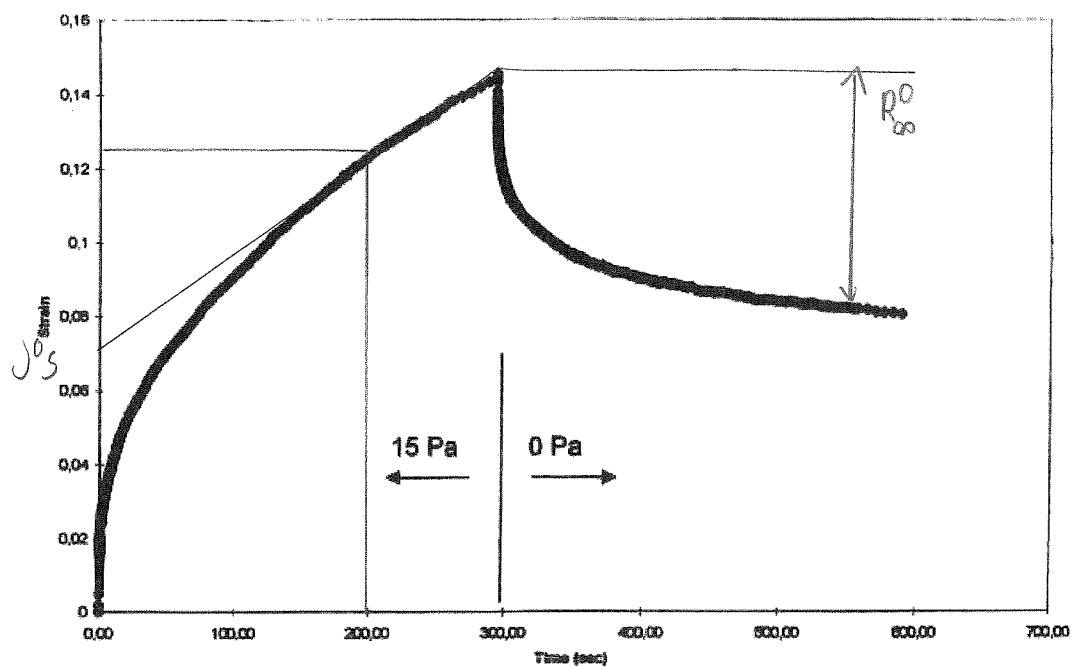

Figure 1. The creep recovery test
5. **Calculation** The figure 1 shows results of a creep-recovery test (strain vs. time) for a polymer melt. The test was done in a linear region and the stress was 15 Pa. How are you able to determine if the creep test is done in a linear region? Determine from the figure: the zero viscosity η_0 , the steady-state creep compliance J_s^0 and the steady-state recoverable compliance R_∞^0 . Evaluate what the strain would be at the end of the creep phase, if the stress was 5 Pa.